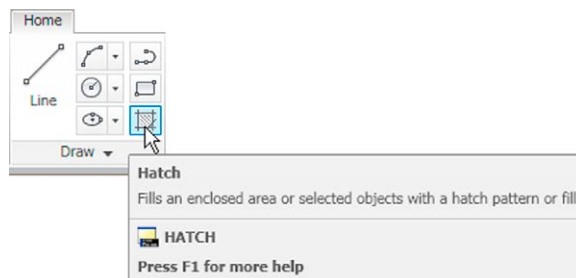
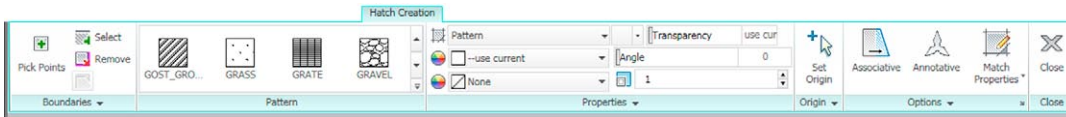

Fig. 7.11 The **Hatch** tool icon and tooltip from the **Home/Draw** panel
Fig. 7.12 The **Hatch Creation** tab and ribbon
1. Call the **Hatch** tool with a *left-click* on its tool icon in the **Home/Draw** panel (Fig. 7.11). A new tab **Hatch Creation** is created and opens the **Hatch Creation** ribbon (Fig. 7.12), but only if the ribbon is active.